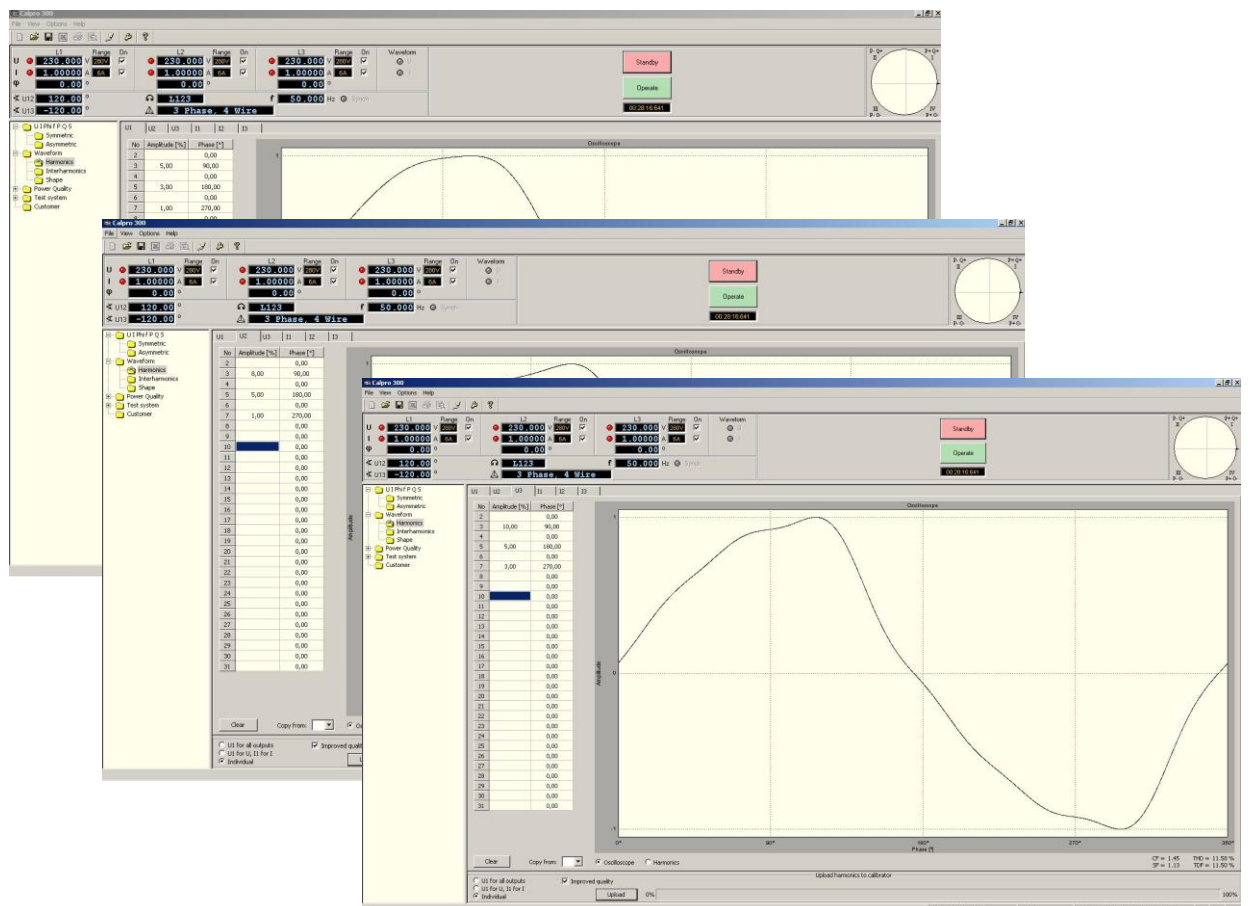

Fig.5 Harmonics setting windows in "individual" mode
- setting harmonics in asymmetric configuration is the same as in symmetric configuration with only one exception. Is possible set different harmonics in each channel. As on Fig.5 where different harmonics is set in each voltage channel.